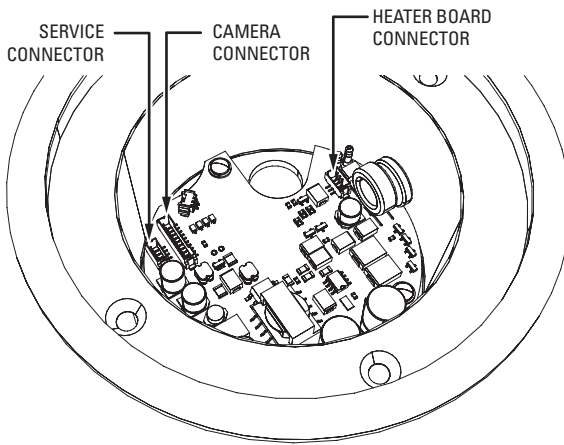

Figure 6. Back Box Connectors
2. Unplug the camera (10-pin), service (3-pin), and heater board (4-pin) connectors from the back box (refer to Figure 6).
1. Plug the connectors into the back box in the following order (refer to Figure 6 on page 13):